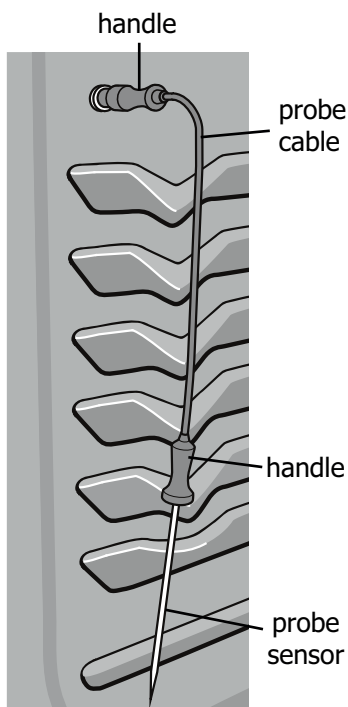

Figure 18: Probe parts
2. Plug the connector end of the probe all the way into the probe receptacle while the oven is still cool. The receptacle is located on the upper left front oven cavity wall (See "Figure 18: Probe parts" on page 31).